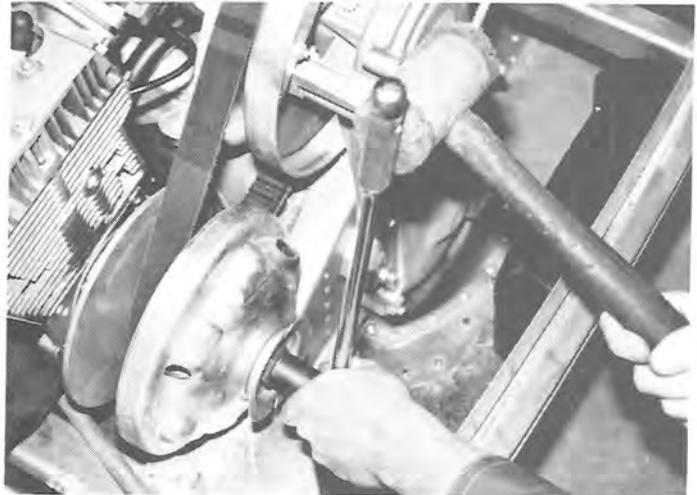

FIG 4-2
2. Remove clutch attaching bolt and bell retaining bolt. Use impact wrench capable of 75 or more ft. lbs. torque (In the field alternate method may be used.) Making sure ignition is off, run engine up on compression using  $\frac{3}{4}$ " socket and ratchet. Strike ratchet with plastic or rubber mallet. (See Figure 4-2).